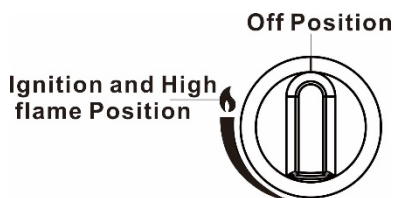

Figure.6
- To ignite the burners, push in and turn the control knob of the burner you wish to ignite in an anti-clockwise direction to the mid position. (see Fig.6) This will generate the automatic ignition spark causing the burner to ignite.
- Turning the control knob in a clockwise direction from the mid position will again reduce the flame level and if the knob is turned fully in a clockwise direction to the off position it will shut down the burner. (see Fig.6)